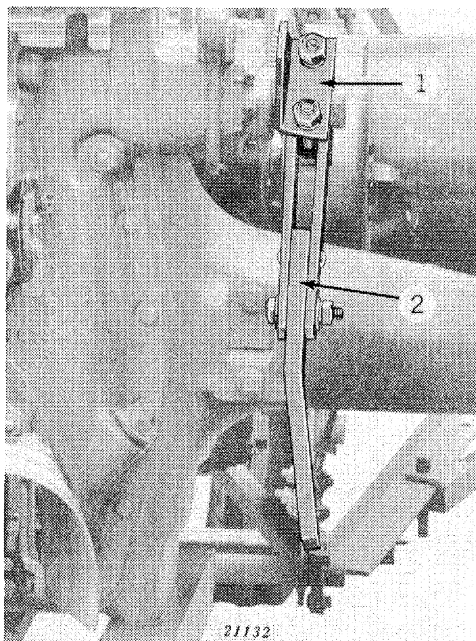

Figure 9—"A," "B," "G," "50," and "60" Tractors
1. Attach cultivator lift arms, **not supplied with the snow plow**, to the power-lift rockshaft. (See Figure 9.)
2. Attach offset lift arm extensions to the cultivator lift arms with the bend of the arm extending out toward the tire as shown. (See Figure 9.)